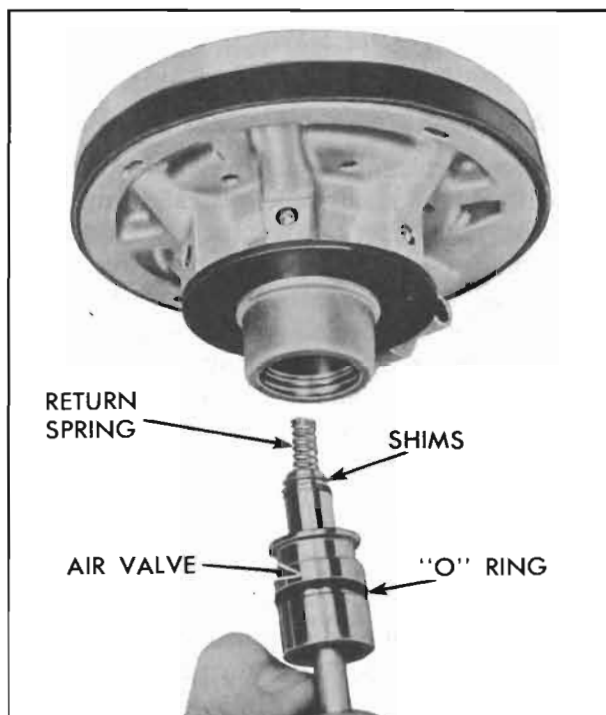

Figure 9-19—Removing or Installing Air Valve Assembly
7. Hold power piston assembly with push rod down and pull out push rod and air valve. See figure 9-19. Lift off the spring, snubber, and spacers (note number of spacers). Remove "O" ring from air valve.